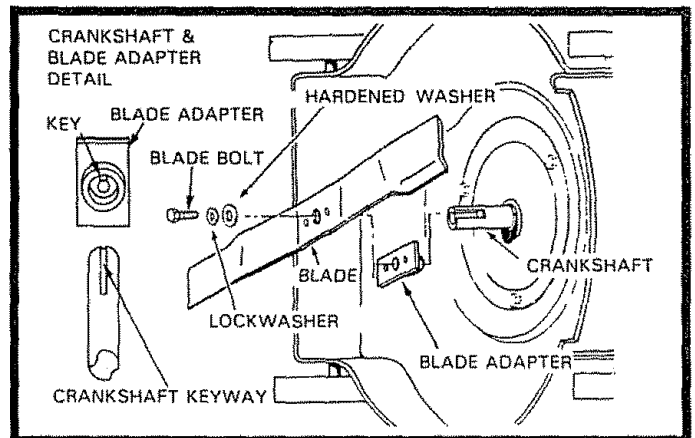

FIG. 9
- Remove Blade and attaching hardware (Bolt, Lockwasher and Hardened Washer) (See Fig. 9).
- Position Blade on to the Blade Adapter aligning the two (2) holes in the Blade with the raised Lugs on the Adapter.
**NOTE:** Be sure the word TOP (stamped on the Blade) is toward the engine (See Fig. 9).
- Install the Blade Bolt with the Lockwasher and Hardened Washer into Blade Adapter and Crankshaft (See Fig. 9).